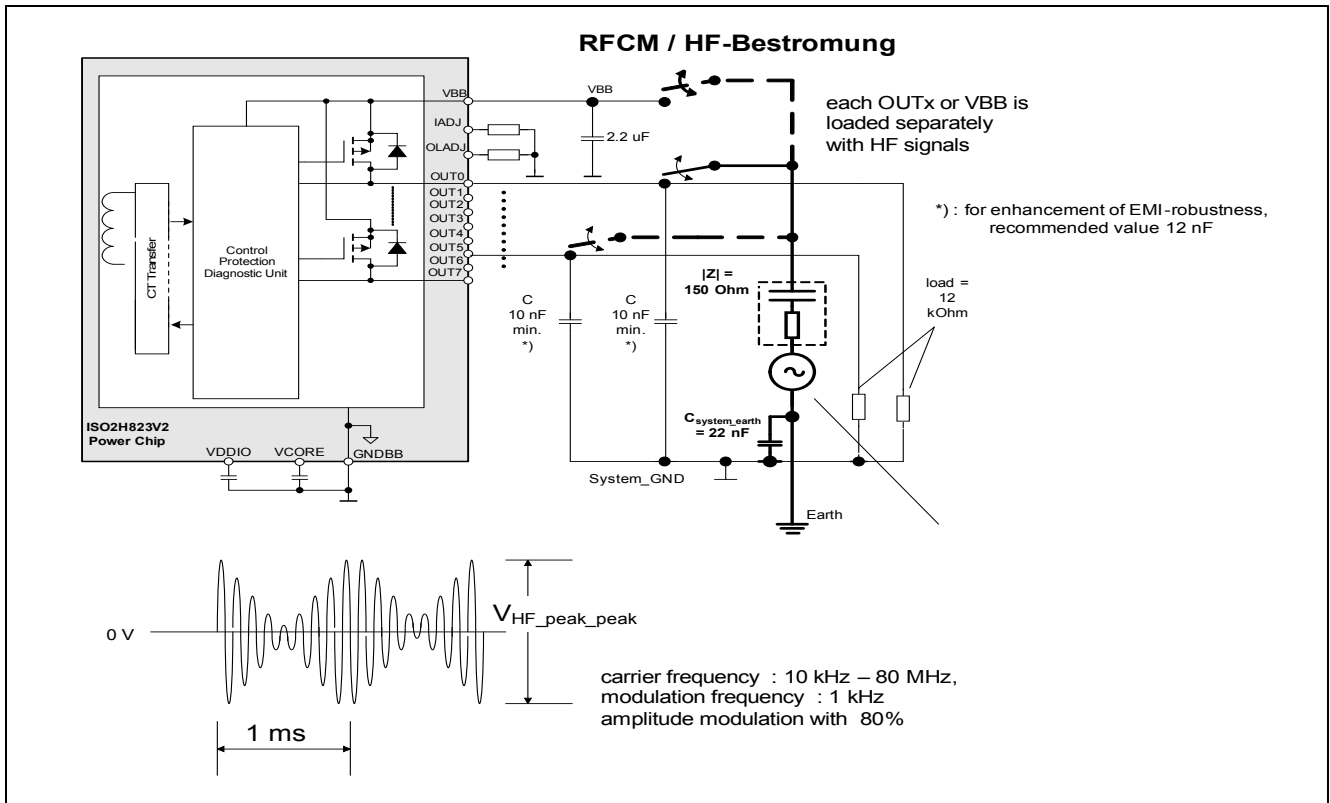

Figure 27 RFCM-Application
**Figure 27** shows the test circuitry for applying RFCM frequencies. The fat drawn equipment symbolizes the HF-generator and the coupling of HF frequencies to the OUTx-pins and/or to the VBB-pin (the drawn coupling network shall symbolize an effective impedance of 150  $\Omega$  regardless of the frequency as specified in IEC 61000). The HF-disturbance is an 80%-amplitude modulated signal with the carrier frequency of 10 kHz - 80 MHz and the modulation frequency of 1 kHz.
The 80 % amplitude modulated signal is shown in Figure 27 in the lower half. With external elements on the user-PCB-board it is targeted to achieve a RFCM-robustness against the defined HF-signals of  $V_{HF\_peak\_peak} = \pm 25 V$ .